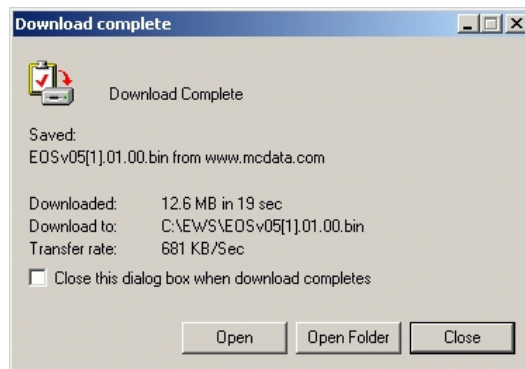

Figure 4-30 Download Complete Dialog Box
11. A *Download* dialog box displays, showing the estimated time remaining to complete the download process. When the process finishes, the dialog box changes to a *Download complete* dialog box (Figure 4-30).